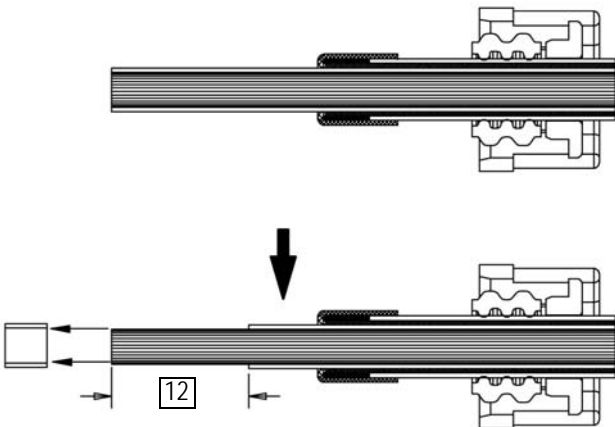

Figure 7
6. Strip the inner jacket 12 mm from cut end of cable exposing the conductor strands as shown in Figure 7.